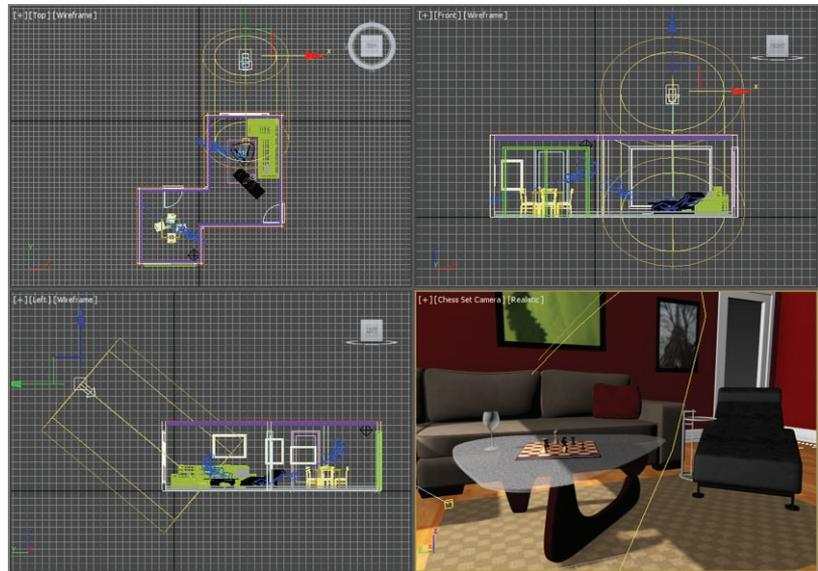

FIGURE 14.22 The light's position shown in all the viewports
5. Select the light only, and then move the light so it is aligned with the living room window, as shown in Figure 14.22, and name the light Sunlight.